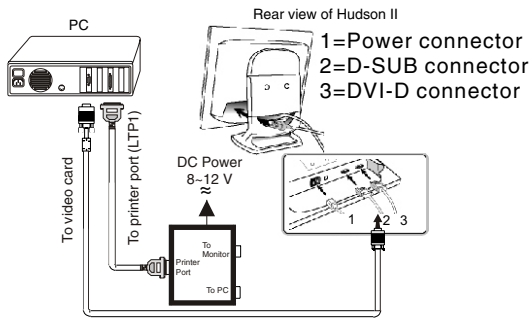

Fig. 4
- Step 2: Connecting printer cable and video cable of monitor as Fig. 4